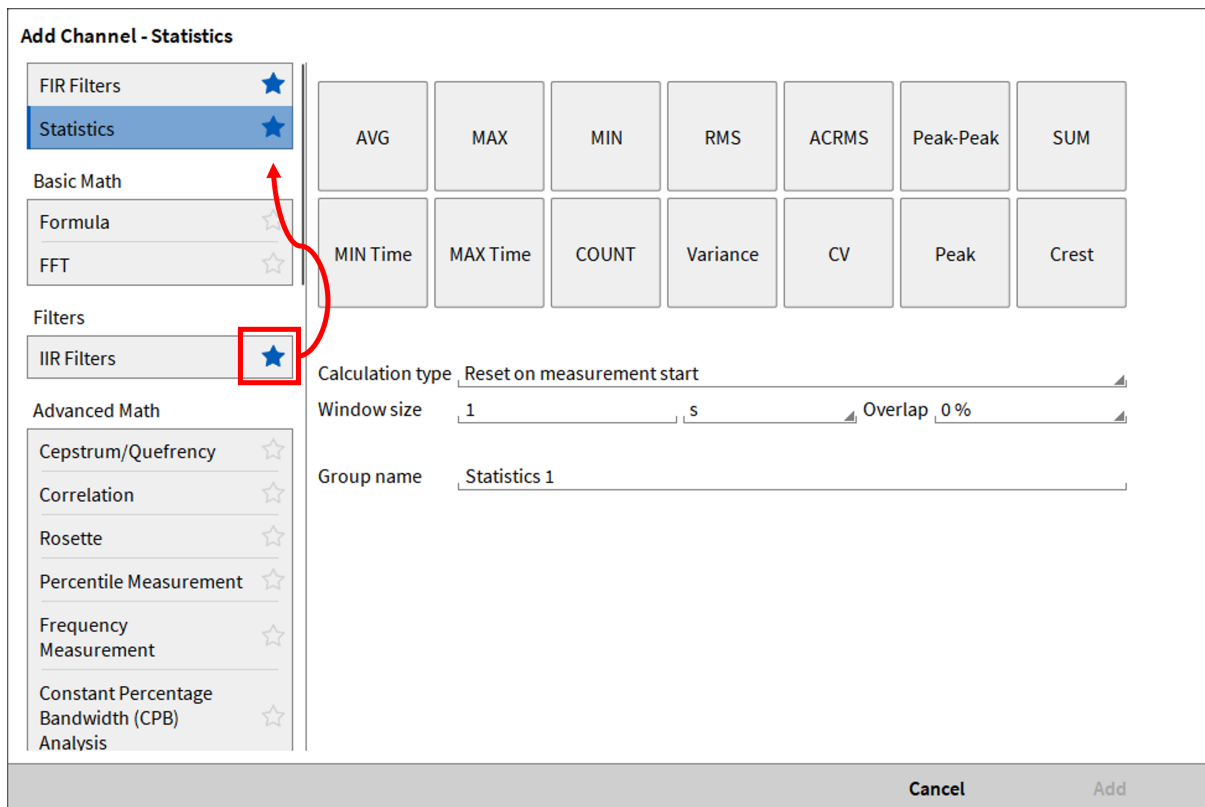

Fig. 7.44: Channel setup of a TRION3-1820-MULTI channel
All channel settings (except the sample rate and the bit resolution) can also be changed in the individual Channel Setup (see Fig. 7.44) which can be accessed via push button ⑪ (see Fig. 7.2 or Table 7.1).